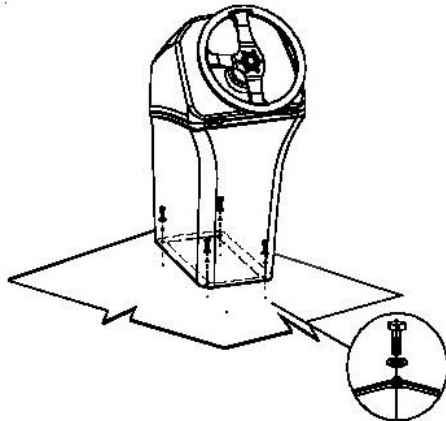

Fig. 6. Installation of steering console CL-11.
- Fix steering console to the deck by means of bolts M8*30 and toothed lock washer (fig. 6).